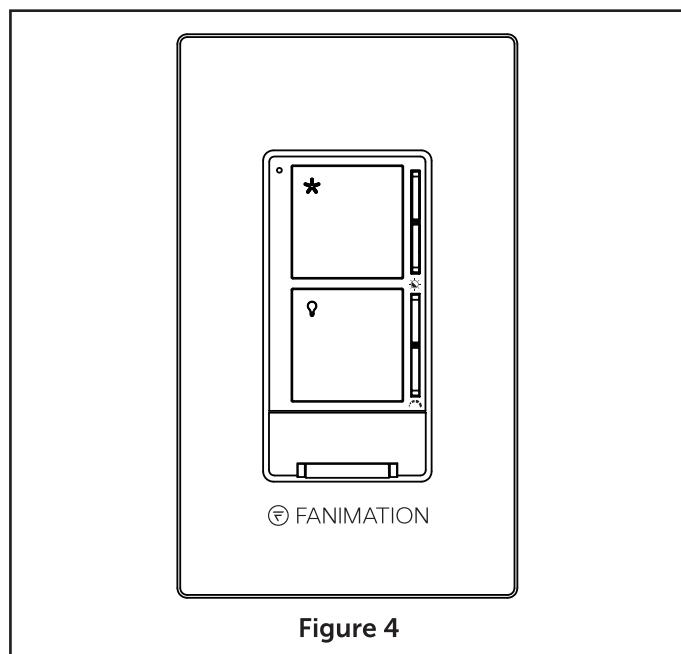

Figure 4
5. Operating Wall Control: (Figure 4)